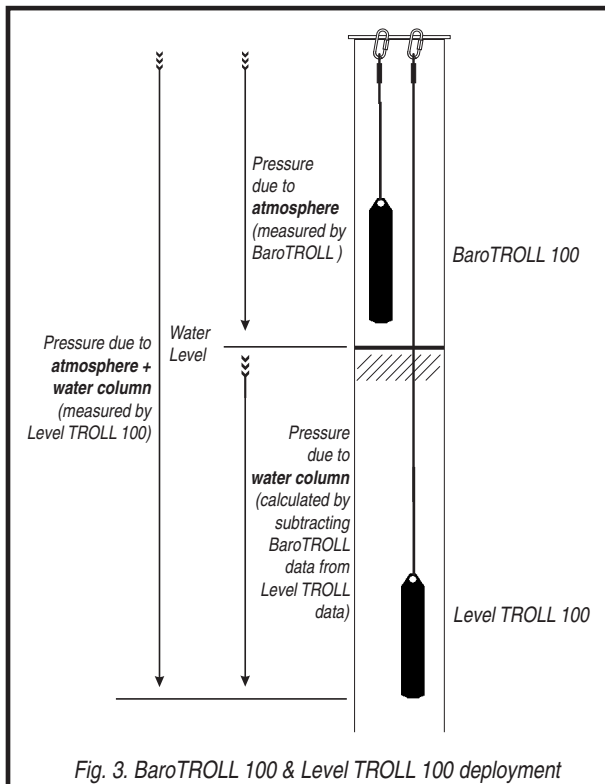

Fig. 3. BaroTROLL 100 & Level TROLL 100 deployment
- Disconnect, attach the hanger, and deploy suspended or lying in a protected location above water level, near the submerged Level TROLL 100 or 200. One possibility is shown in Fig. 3.
As shown in Fig. 3, the Level TROLL 100 and 200 instruments measure all pressure forces detected by their absolute pressure sensors. These forces include barometric (also called atmospheric) pressure and the pressure of the water above the sensor. As a result, logged data will show the effects of changes in barometric pressure. These effects can be removed manually (see the technical note “Manual Barometric Correction” in the Downloads section of the In-Situ website). To automatically remove barometric pressure effects, use Win-Situ Baro Merge software.